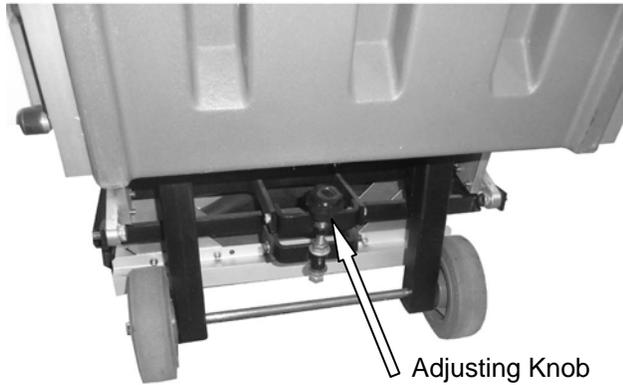

Fig. 7
9. If the head and the brushes are not level with the tread, turn the adjusting knob. It may be necessary to finely tune this once this escalator is turned on (Figure 7).